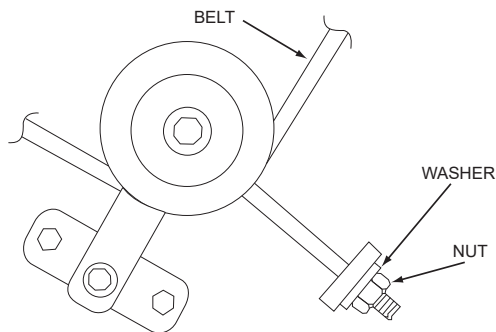
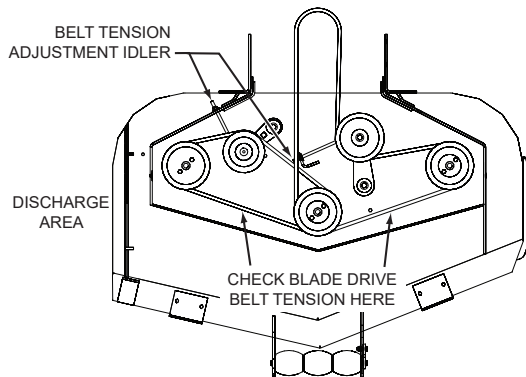

Figure 6-5. Cutter Deck Belt Adjustment R.H.
Figure 6-6. Cutter Deck Belt
3. Adjust the RH blade drive belt using a belt tension gauge. Adjust the belt so that the belt moves 1/2" with 10 pounds of pressure. Adjust the tension by tightening or loosening the J-bolt. See Figure 6-5 and Figure 6-6.